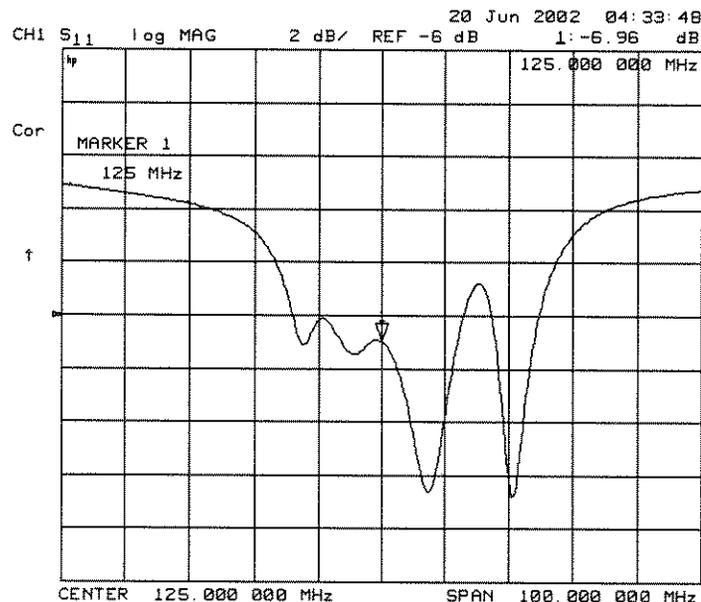

Figure 2-10. Example Return Loss Measurement Trace
4. Press **MARKER** to read the return loss from the analyzer display as shown in Figure 2-10.